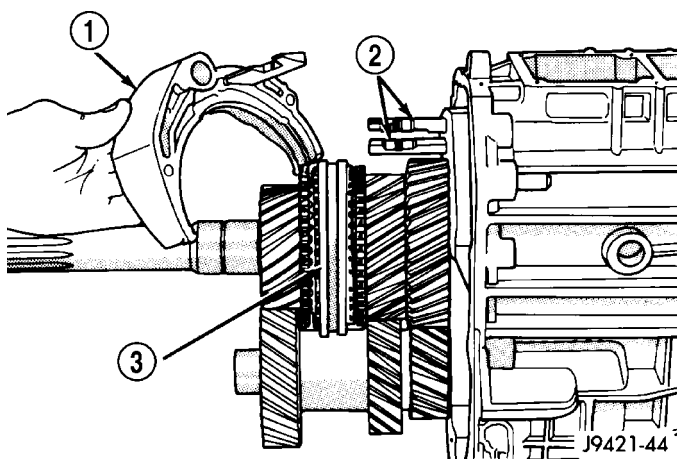

Fig. 23 3-4 SHIFT FORK
(9) Rotate 3-4 fork around synchro sleeve until fork clears shift arms on 1-2 and fifth-reverse forks, then remove 3-4 fork (Fig. 23).